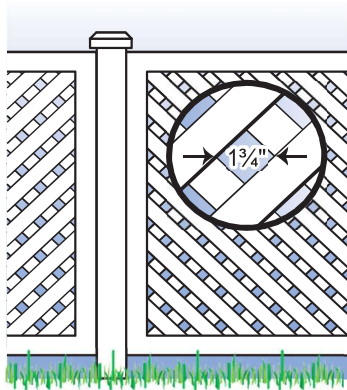

Figure 7
The maximum opening in the lattice shall not exceed $1\frac{3}{4}$ inches. Per 2018 ISPC #305.2.8 (figure 7)
- Where the barrier is composed of diagonal members, such as a lattice fence, the maximum opening formed by the diagonal members shall be no more than 1¼ inches (figure 7).